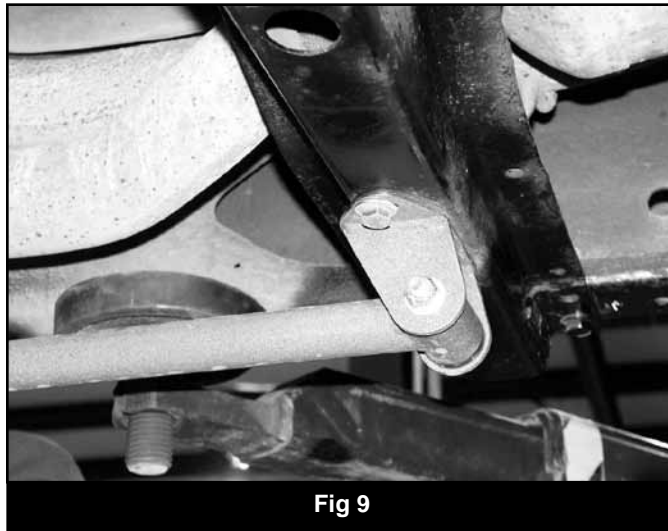

Fig 9
44. After the position is determined, install the rear mounting bracket (01189) to the compression strut and swing it up to the transmission crossmember again. Ensure that the two mounting holes in the bracket are relatively centered on the crossmember and using the bracket as a template, mark the holes on the crossmember for drilling. Note: If the bracket is not lining up on the crossmember correctly, turn the bracket around on the strut (Fig 9).